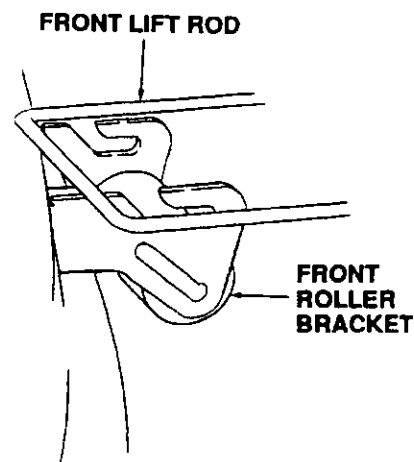

Figure 38
16. Raise tractor implement lift handle to its highest setting. Slide the mower deck forward so front lift rod rests to the rear of, and free of, front roller bracket slots of the deck. (Refer to Figure 38.)